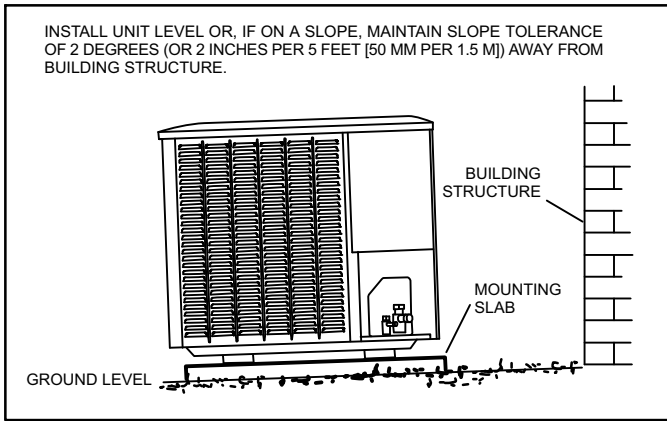

**Figure 7. Outside Unit Placement**
- When possible, do not install the unit directly outside a window. Glass has a very high level of sound transmission. For proper placement of unit in relation to a window see the provided illustration in figure 7.